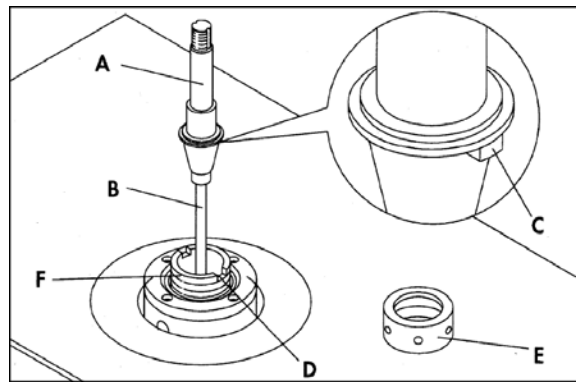

Figure 3
4. Thread the short threaded end of the draw bar (B, Figure 3) into the threaded hole in the bottom of the interchangeable spindle (A, Figure 3). Remove the two lock nuts and the bevel washer from the other end of the draw bar (B, Figure 3).
5. Carefully insert the draw bar (B, Figure 3) and spindle (A, Figure 3) down through the shaft as shown. Make sure the tang (C, Figure 3) on the spindle is engaged with the notch (D, Figure 3), and thread the spindle nut (E, Figure 3) onto the threads (F, Figure 3).